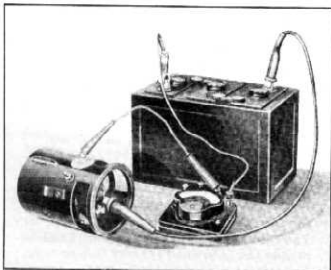

Fig. 29—Field Coil Balancing Test
2. Place one test lead on the soldered connection and the other one on end of the field coil (fig. 29).